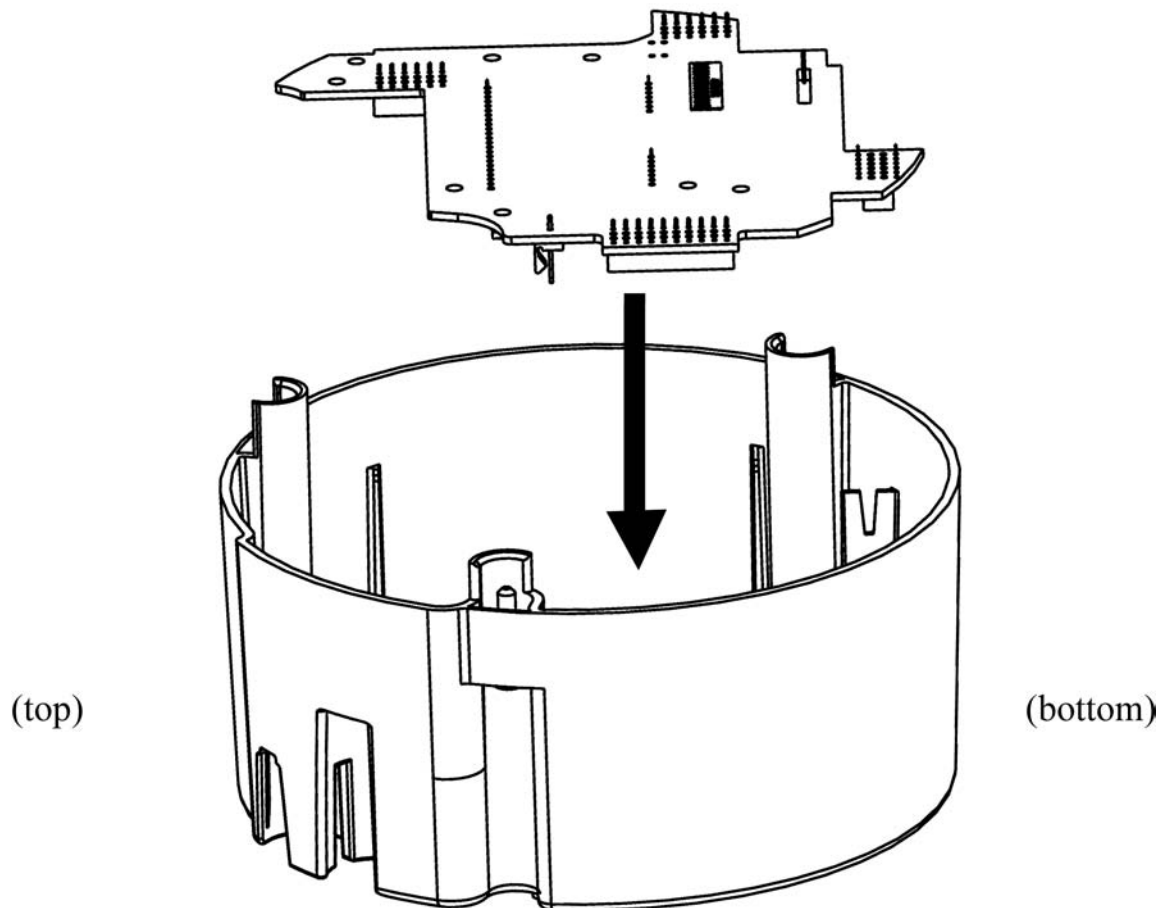

Figure 4-9: Installing the Register Display Board
2. Insert the Register Display Board into the Meter Base Assembly as shown in Figure 4-9.